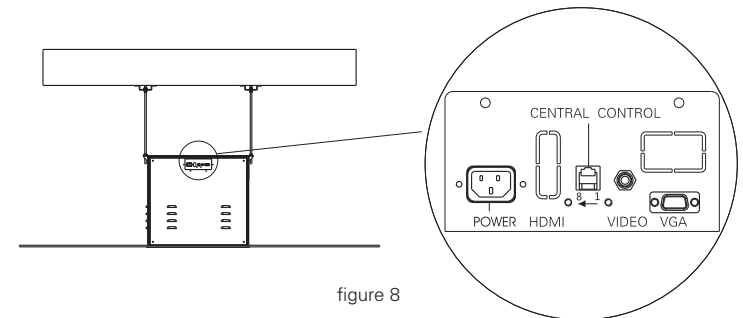

figure 8
6. Figure 8, connect the power cord and signal cord (Circuit wiring diagram 9)